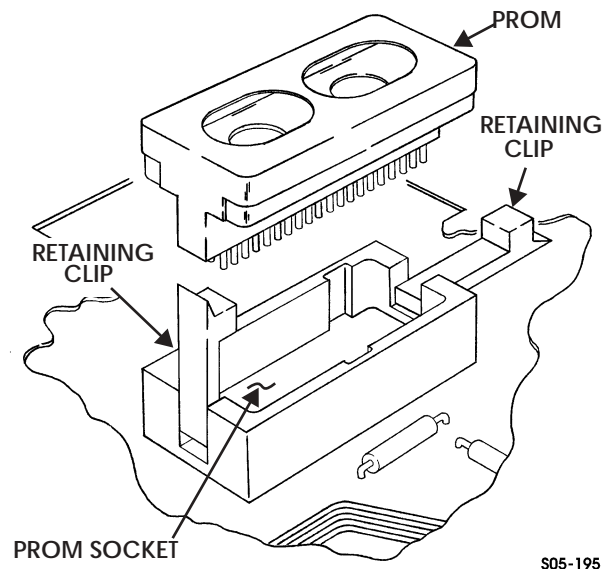

Figure 5-101: Retaining Clip
3. Using two fingers, push both retaining clips away from PROM. While grasping PROM at both ends, lift it straight up out of socket (Figure 5-101).